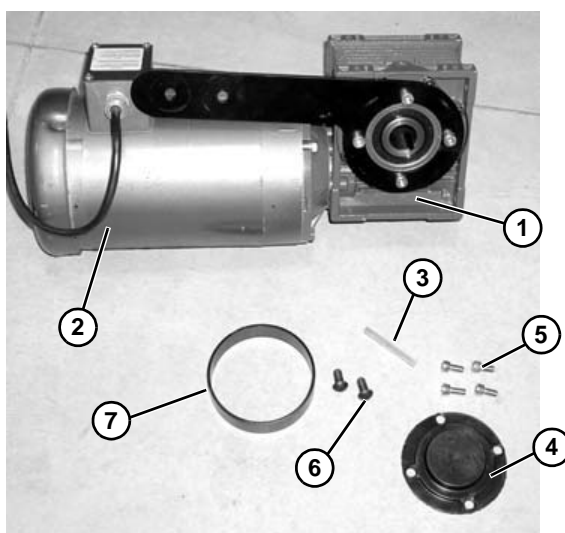

Figure 24
1. Locate components of (Figure 24).